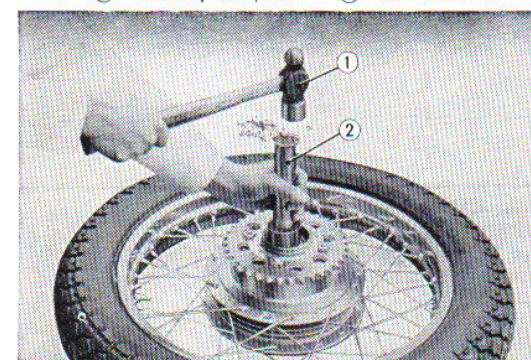

Fig. 4.100 Installing the bearing
2. Grease the ball bearing and pack the rear wheel hub with grease. Insert the spacer and drive the bearing into place using a bearing installer. (Fig. 4.100)